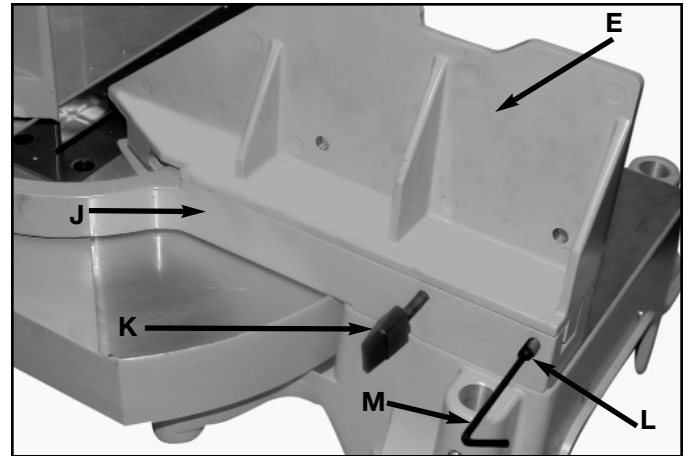

Fig. 7D
2. Slide fence (E) on fence slide support (J) Fig. 7D. Tighten set screw (L) with hex wrench (M) until it contacts the fence slide support, then loosen one turn. The purpose of this set screw is to prevent the sliding fence from coming completely off the slide support.